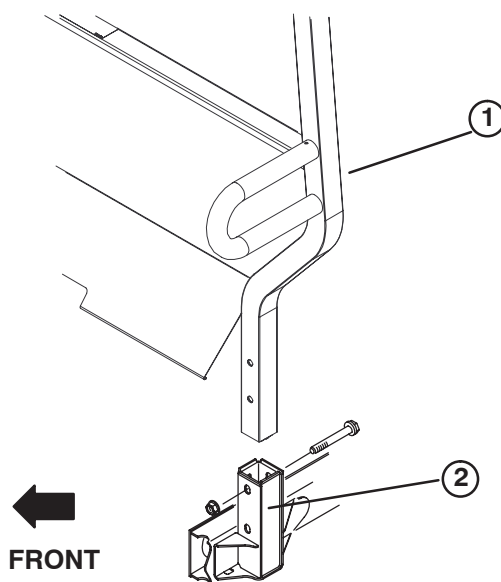

Figure 6
1. Insert each side of ROPS into mounting bracket on each side of vehicle frame, positioning ROPS as shown in figure 6.
2. Secure each side of ROPS to mounting brackets with (2) 1/2–13 x 3" lg. capscrews and locknuts.